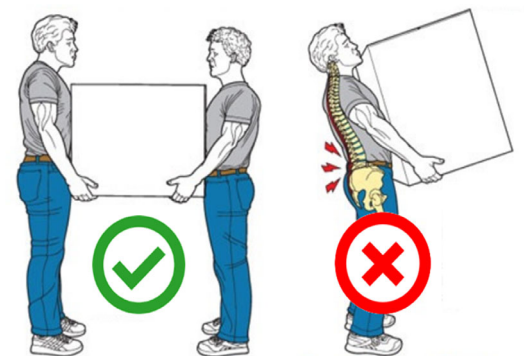

Figure 19 - Handling technique
- Get help from another operator if you have to lift unwieldy loads (Figure 19);